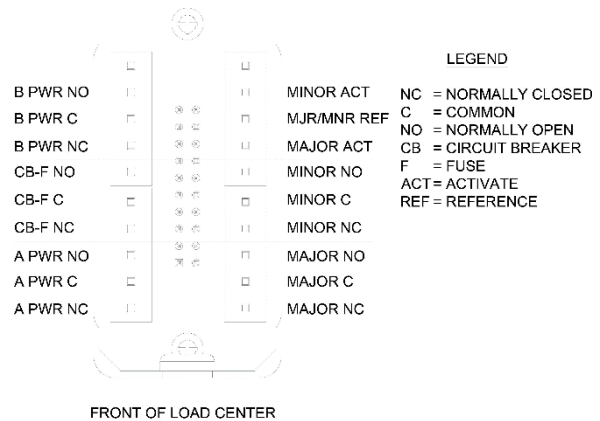

Fig. 5: Alarm wiring
3. If you intend to install alarm wiring for load center and/or bay alarms, consider doing so now before installing the load center in the rack. The alarm terminal is located near the top center of the load center. Refer to Fig. 5.